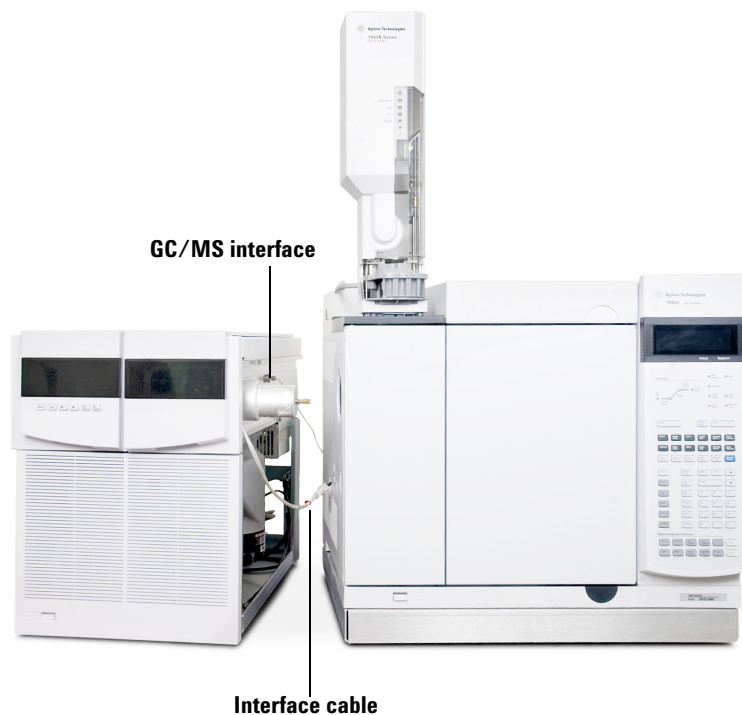

Figure 6 Separating/connecting the MS and GC
- 5 Move the MS away from the GC until you have access to the GC/MS interface cable (Figure 6).
- 1 Position the MS so the end of the GC/MS interface is near the GC (Figure 6).